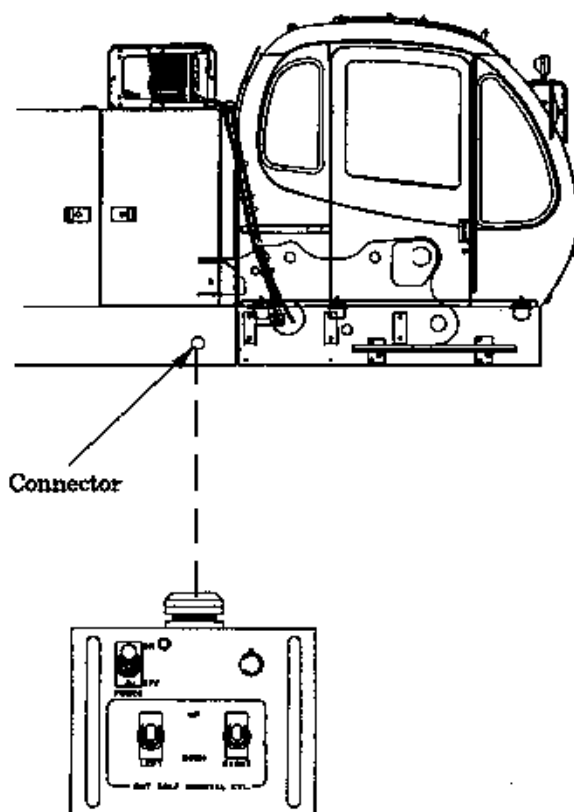

Fig 5-19
- (5) Connect the wiring connector of the swing flasher located on the counterweight side.
- (6) Stop the engine. Then, disconnect the connector of the control box (Fig. 5-19).